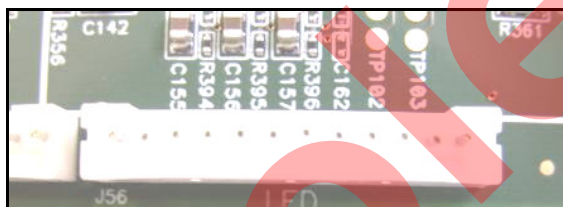

Figure 16: LEDs Connectors
1. LED Connectors (see Figure 16)